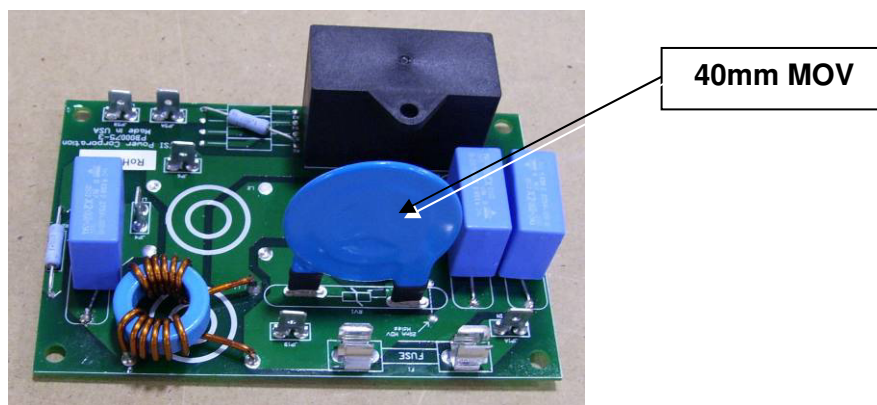

Figure 11: AC Surge Protection Circuit Board
2.6 AC SURGE PROTECTION CIRCUIT BOARD – The XUPS-1500-7070 is protected against spurious AC surge currents by a proprietary circuit board. This board uses a 40mm MOV in combination with two, 3-element gas tubes to provide protection and assure the continued function of the XUPS. See Figure 11.